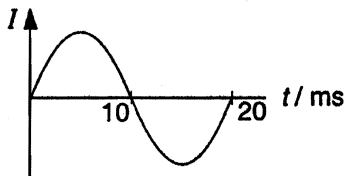

Fig. 11.2
- (c) Figure 11.2 shows the form of the variation with time t of the current I in the primary coil of the transformer in (b).
Sketch graphs, with the same time axis as Fig. 11.2, to show possible forms of the variation of